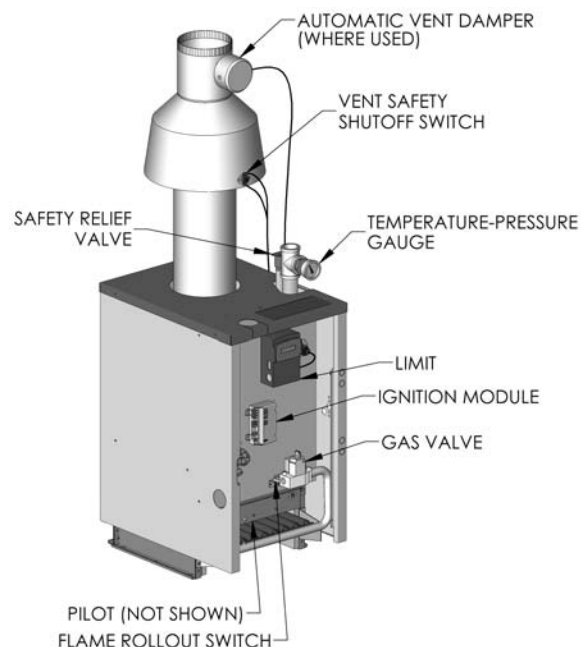
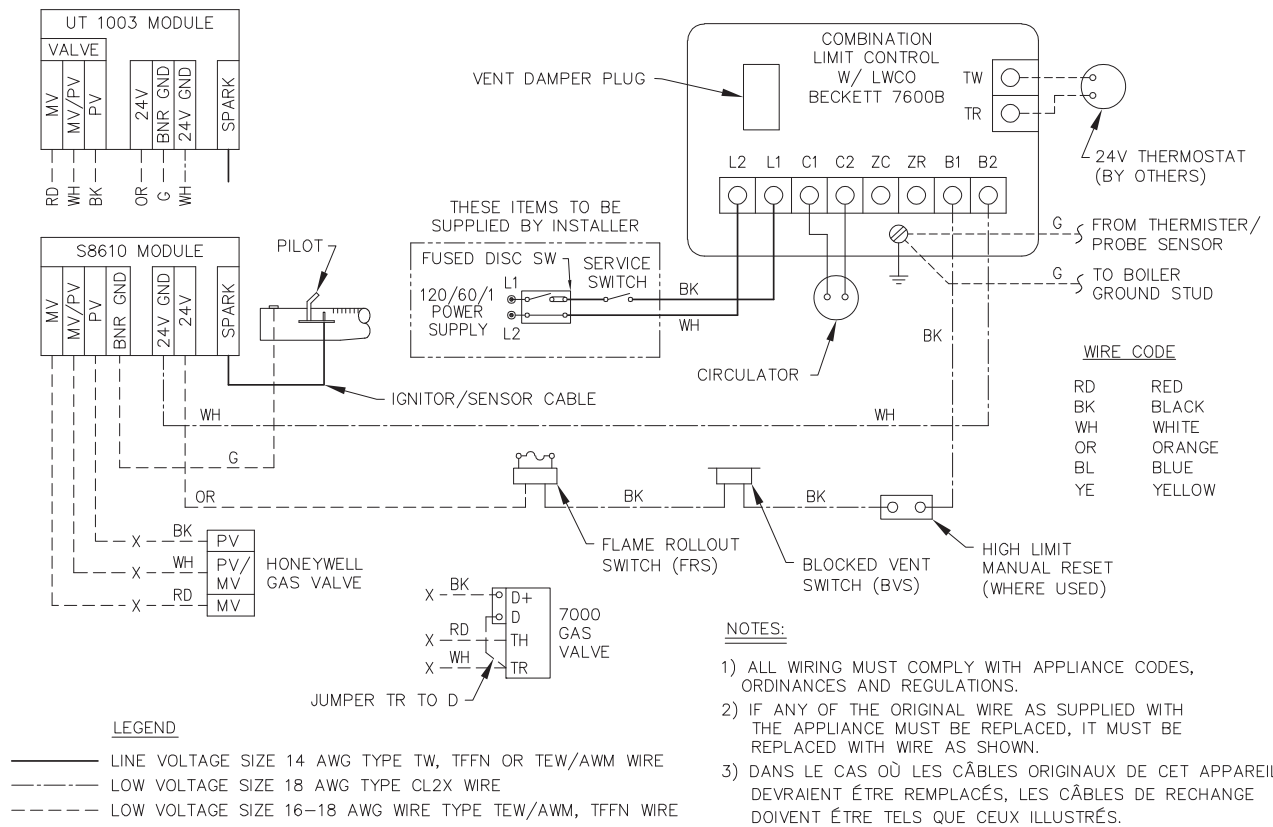

Figure 6.1: Wiring Details
Figure 6.2: Wiring Diagram, Spark Ignited Pilot, Becket7600 Limit Control
1. See Figure 6.1 for location of wiring and controls. Use Figures 6.2 - 6.3 to connect the boiler to a power supply and then connect components to the boiler.
3. Connect the vent damper harness to the polarized connector in the limit control – see Figure 6.1 and vendor instructions.